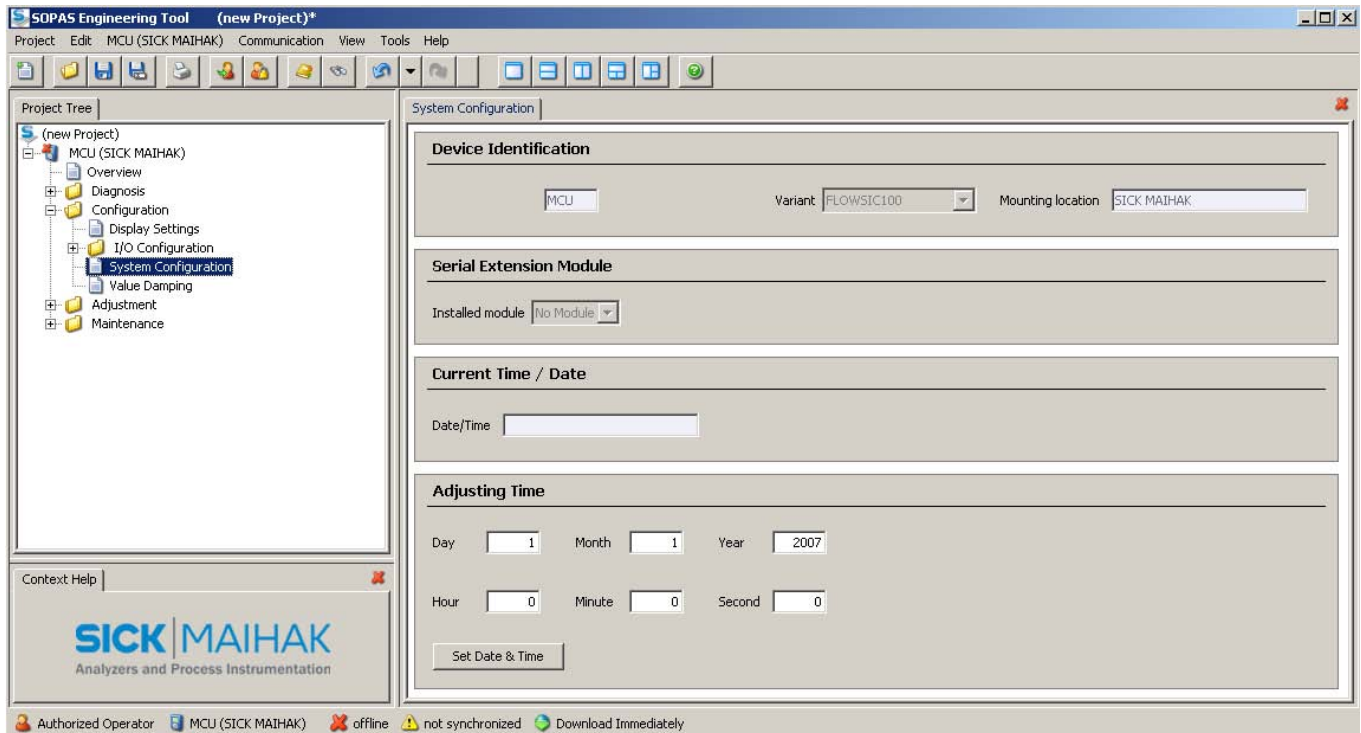

Fig. 4.31: "Configuration / I/O Configuration / System Configuration" subpage
- ▶ Go to the subpage “Configuration / I/O Configuration / Output Parameter FLOWSIC100” (see Fig. 4.31).
- ▶ Switch to the "Configuration / I/O Configuration / System Configuration" subpage (see **Fig. 4.31**). The installed interface module is displayed in the dialog box "Serial Extension Module".